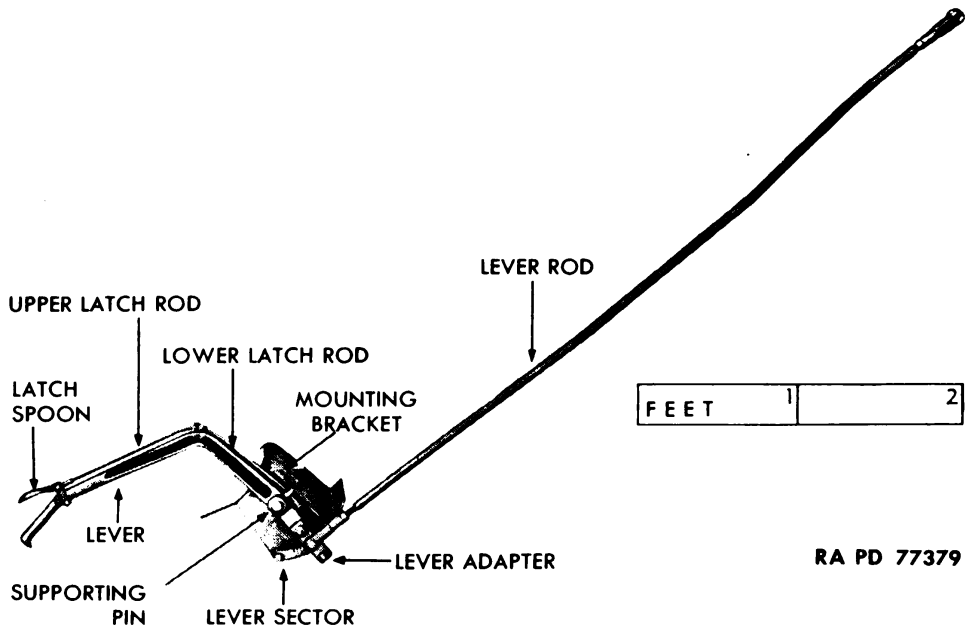

Figure 88 – Propeller Shaft Brake Lever and Linkage
a. Description (fig. 88). The propeller shaft brake lever is located in cab at right of operator's seat. The purpose of lever is to operate propeller shaft brake by applying brake shoes under pressure to the brake disk. Pressure is created through a series of cams and levers. Attached to brake lever is a latch rod which permits setting and holding brake lever in the position necessary to keep vehicle from moving. To operate brake, the latch spoon at upper end of brake must be depressed. Releasing spoon sets latch rod latch in lever sector and prevents brake lever from moving.
b. Removal (fig. 88). Remove cotter pin, flat washer, and spring which secure lever to mounting bracket. Depress latch spoon at upper end of latch rod and slide lever from supporting pin.
c. **Installation** (fig. 88). Position lever on supporting pin with latch spoon depressed. Secure with spring, flat washer, and cotter pin.
a. **Description** (fig. 88). The linkage is located between the lever adapter at base of the brake lever and the push rod attached to brake operating lever. The purpose of linkage (lever rod) is to transmit action of the brake lever to the cams and levers which press the brake shoes against brake disk. Although the linkage is adjustable, do not use it as a method for adjusting brake. Make adjustment as described in paragraph 127 b.
b. **Removal** (fig. 88). Remove the cotter pin and clevis pin from each end of rod. Remove rod.
c. **Installation** (fig. 88). Position rod between lever adapter and operating lever. Secure with two clevis pins and cotter pins. Adjust brake (par. 130 b).